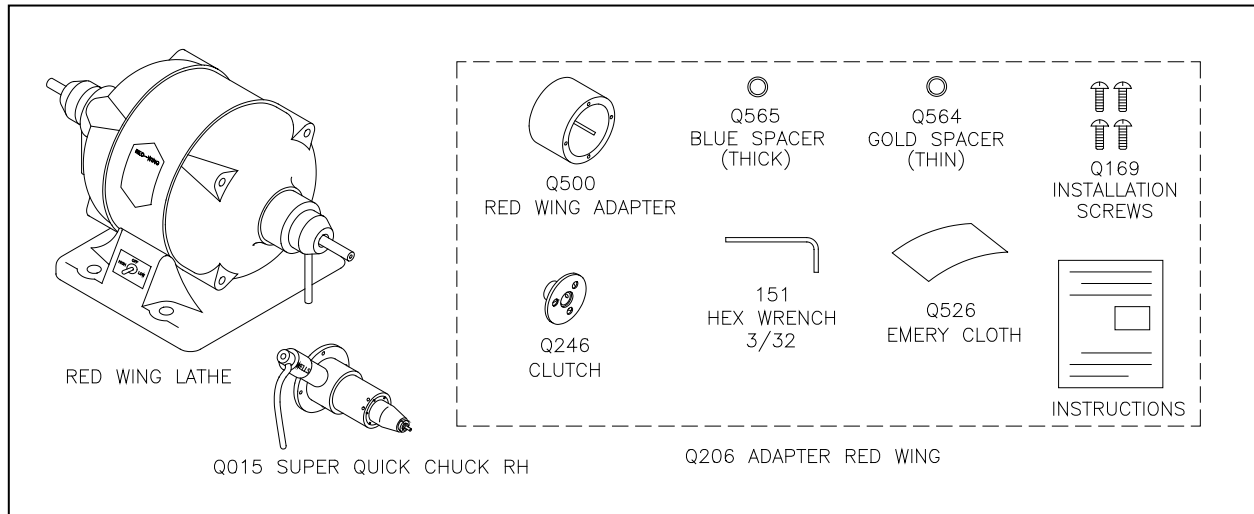

Figure 1. Materials
- 1.2 A Q015 SUPER QUICK CHUCK RIGHT HAND and a Q206 ADAPTER RED WING are required. See Figure 1.